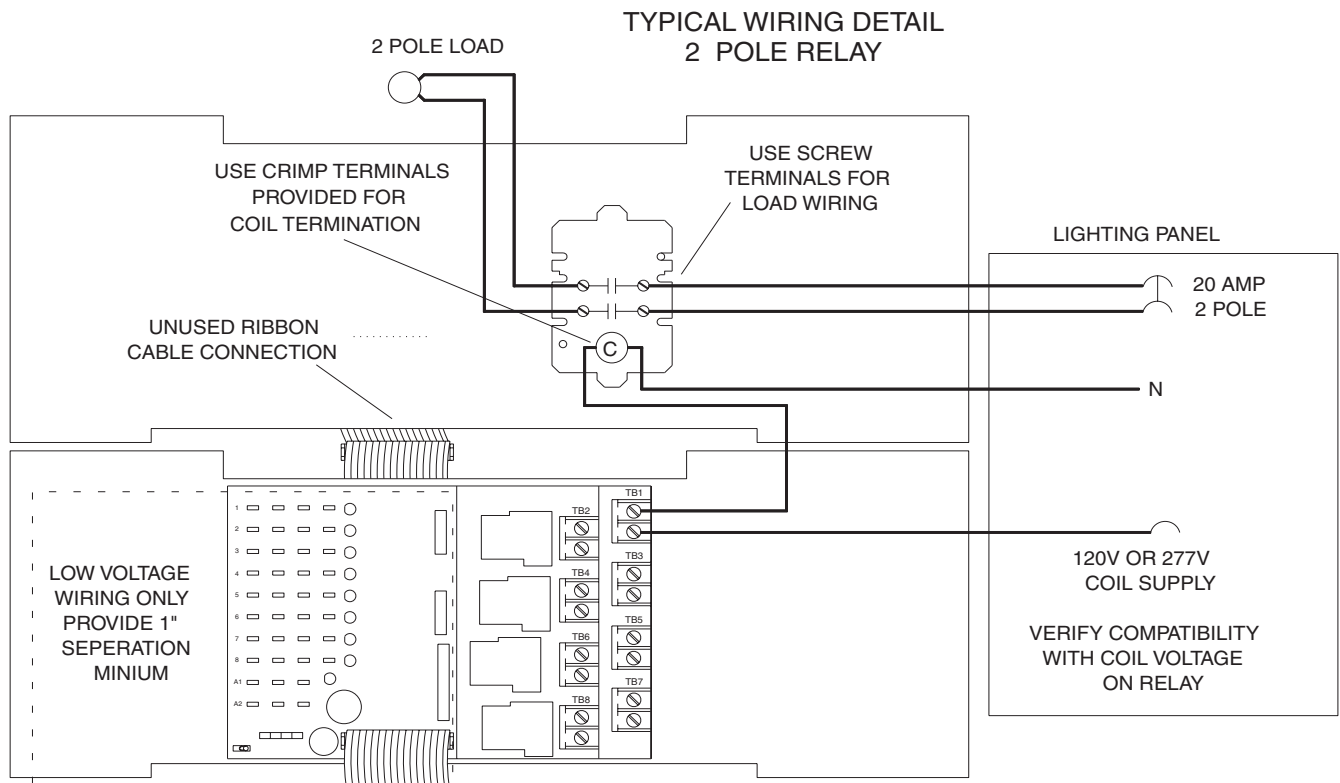

Figure 2 - Example Wiring Detail
Connect the coil of the 2, 3 or 4 pole relay to the terminal block (TB1-TB8) of a SYPM 8R, 8H or 8F module. Connect the line side of the terminal block (TB1-TB8) to a branch circuit of the proper voltage as indicated on the 2, 3 or 4 pole relay coil. See *Figure 2* for wiring details.
5. Connect the contacts of the 2, 3 or 4 pole relay to a source and load as shown in the example wiring of *Figure 2*.